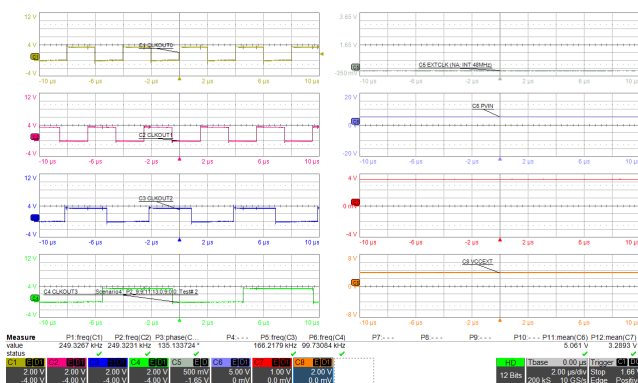
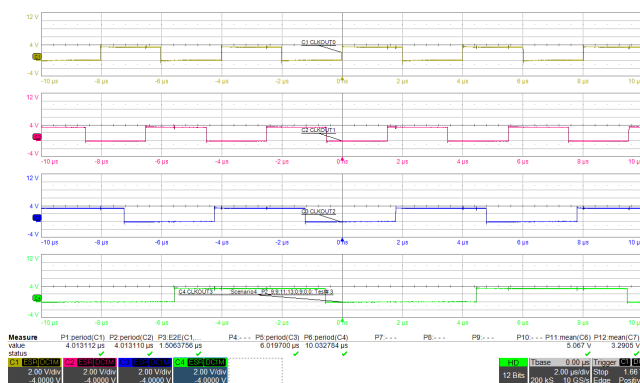

Figure 22. Example Scenario 4: Frequency and Phase
Figure 23. Example Scenario 4: Period and Delay
- Scenario 4 (Figure 22 and Figure 23) – Two outputs have the same frequency, the other two outputs are at two different frequencies (there are three total different frequencies output)